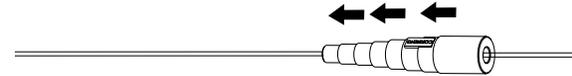

Figure 5-26
**5.6-1** Slide the 900  $\mu\text{m}$  boot (small end first) down the tubing until it is out of the way (Figure 5-26).